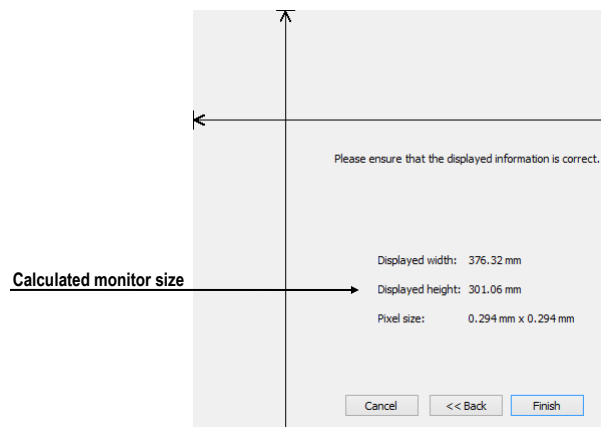

Figure 73 – Monitor calibration verification
5. Verify the calculated calibration size with your physical distance measurement tool and click the **Finish** button (see Figure 73).